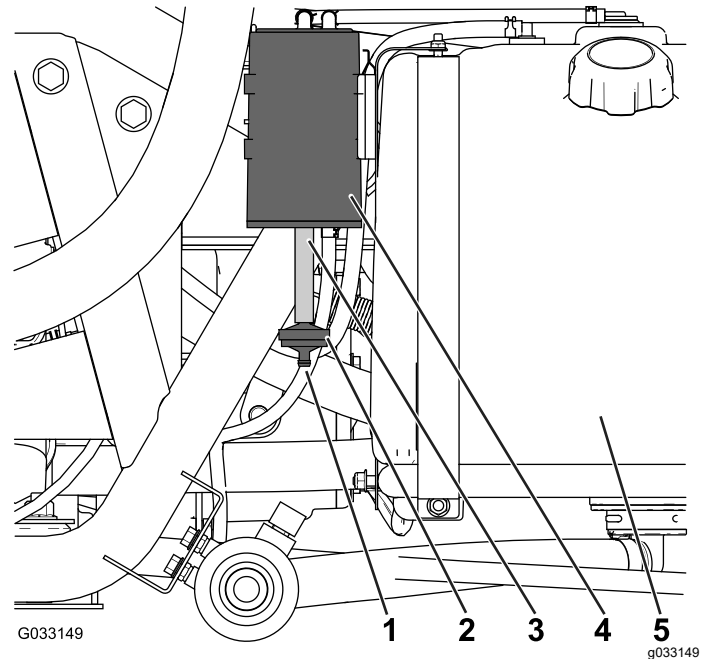

Figure 42
Check the opening at the bottom of the air filter for the carbon canister to ensure that it is clean and free of debris and obstructions (Figure 42).
1. Remove the barbed fitting of the carbon-canister filter from the hose at the bottom of the carbon canister, and remove the filter (Figure 42).